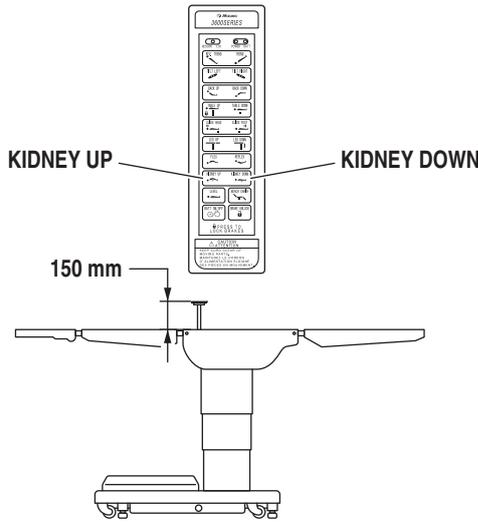

Figure 2-14. Kidney Lift Positioning
i. Kidney Lift To raise the built-in kidney lift, press the KIDNEY UP button (figure 2-14). Up to 150 mm of lift can be achieved. Press the KIDNEY DOWN button to lower the kidney lift.